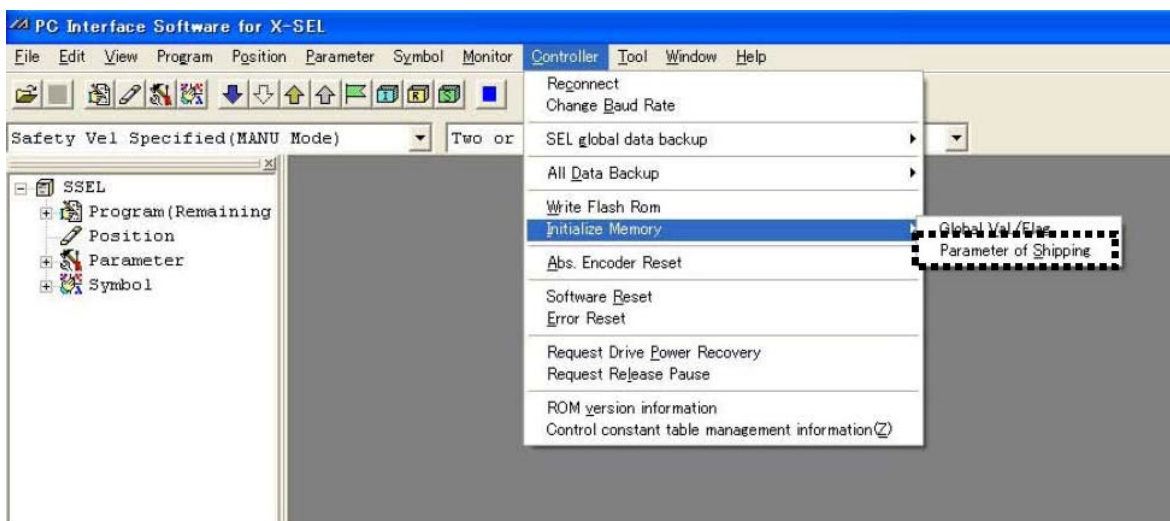

Fig. 8.30 Menu Bar (Parameter Initialization [Shipment Values])
- (2) Enter a password (5119) in the displayed Input Password screen. The Parameter of Shipping menu will be displayed in the Initialize Memory menu (Fig. 8.30).